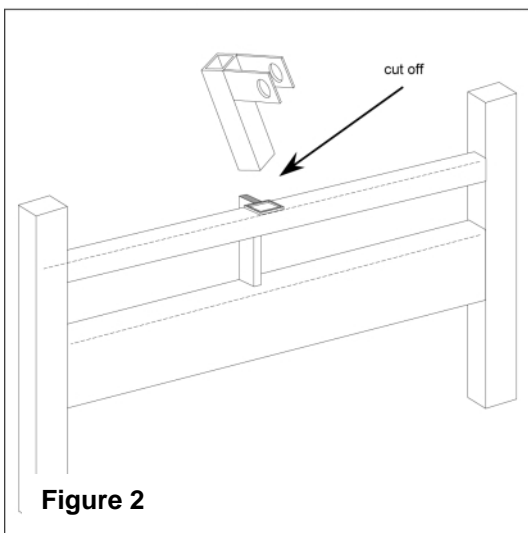

Figure 2
- Cut off the pedestal made of 1-37/64 x 1-37/64 inch (40 x 40mm) tube and 1-3/16 x 25/64 inch (30 x 10mm) strip. Cut just above the joint to the horizontal 40x40mm tube. A stump of maximum 3/64 inch (1 mm) should remain, (see Figure 2).